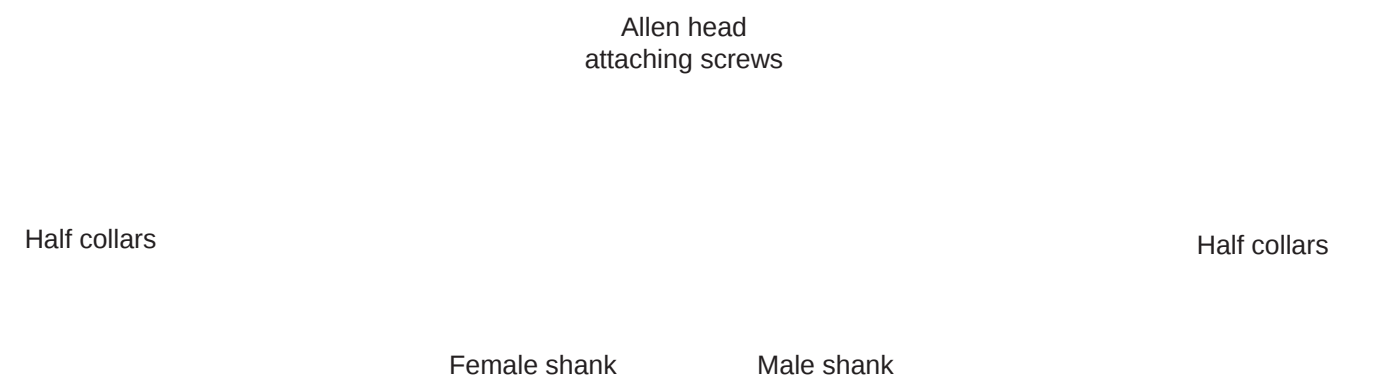

Figure 2—REELTEX® field repairable couplings.
REELTEX® couplings may be ordered with National Hose (NH) or NPSH aluminum expansion ring-type couplings or with new field repairable couplings. REELTEX® field repairable coupling are designed to give long service life, providing it is properly installed and maintained. These couplings may be detached and reattached many times and used as either an end coupling or as a means of splicing two or more damaged sections of hose together (figure 2 and appendix A).